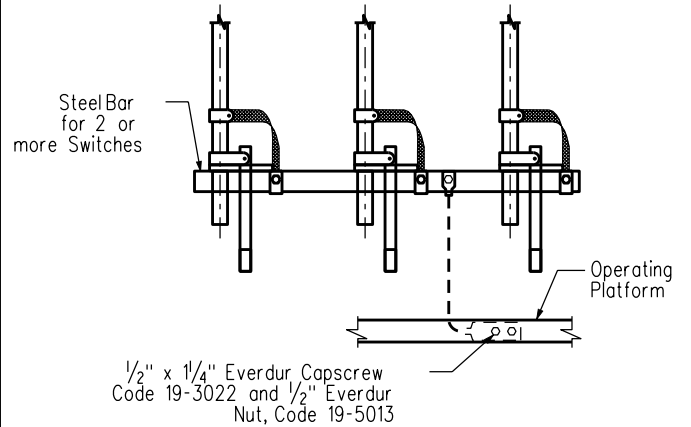

FIGURE 5
(B) FOR BONDING OF PLATFORM, (SEE FIG 5, THIS DRAWING)